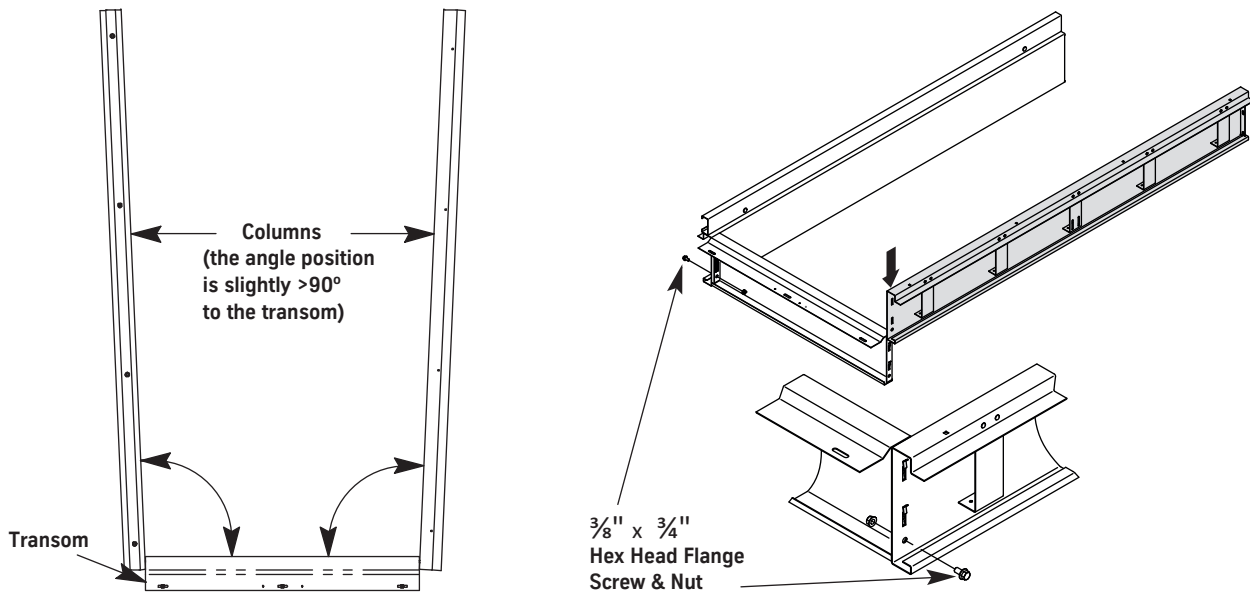

Figure 33- Assemble the Frame
1. Place the entrance columns and transom face down, and position each column at a slight angle to the transom. See Figure 33.